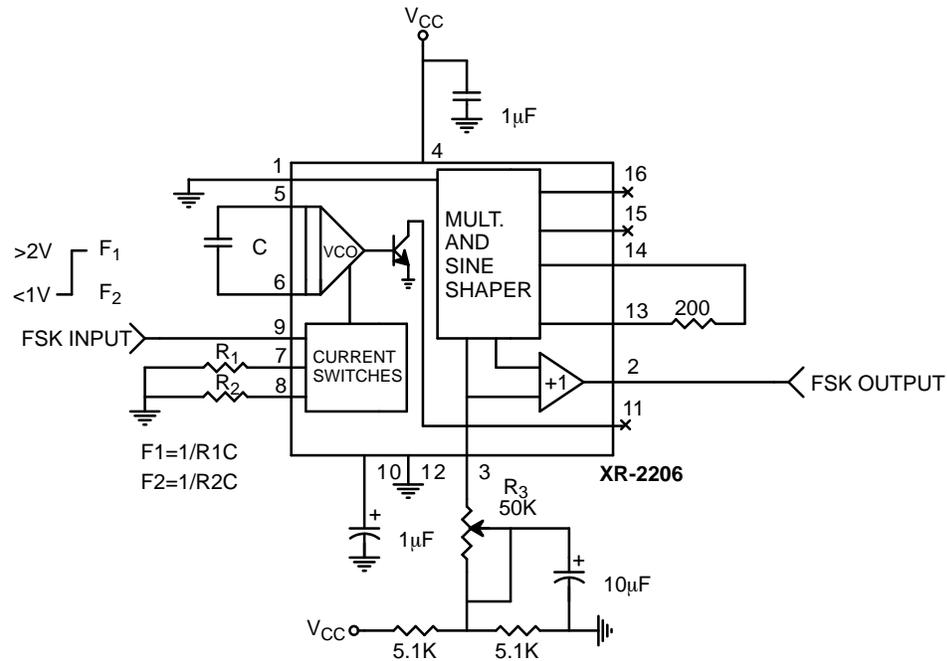

Figure 13. Sinusoidal FSK Generator
The XR-2206 can be operated with two separate timing resistors,  $R_1$  and  $R_2$ , connected to the timing Pin 7 and 8, respectively, as shown in *Figure 13*. Depending on the polarity of the logic signal at Pin 9, either one or the other of these timing resistors is activated. If Pin 9 is open-circuited or connected to a bias voltage  $\geq 2V$ , only  $R_1$  is activated. Similarly, if the voltage level at Pin 9 is  $\leq 1V$ , only  $R_2$  is activated. Thus, the output frequency can be keyed between two levels.  $f_1$  and  $f_2$ , as:
The dc level at the output (Pin 2) is approximately the same as the dc bias at Pin 3. In *Figure 11.*, *Figure 12.* and *Figure 13.*, Pin 3 is biased midway between  $V^+$  and ground, to give an output dc level of  $\approx V^+/2$ .
*Figure 13*, shows the circuit connection for sinusoidal FSK signal operation. Mark and space frequencies can be independently adjusted by the choice of timing resistors,  $R_1$  and  $R_2$ ; the output is phase-continuous during transitions. The keying signal is applied to Pin 9. The circuit can be converted to split-supply operation by simply replacing ground with  $V^-$ .